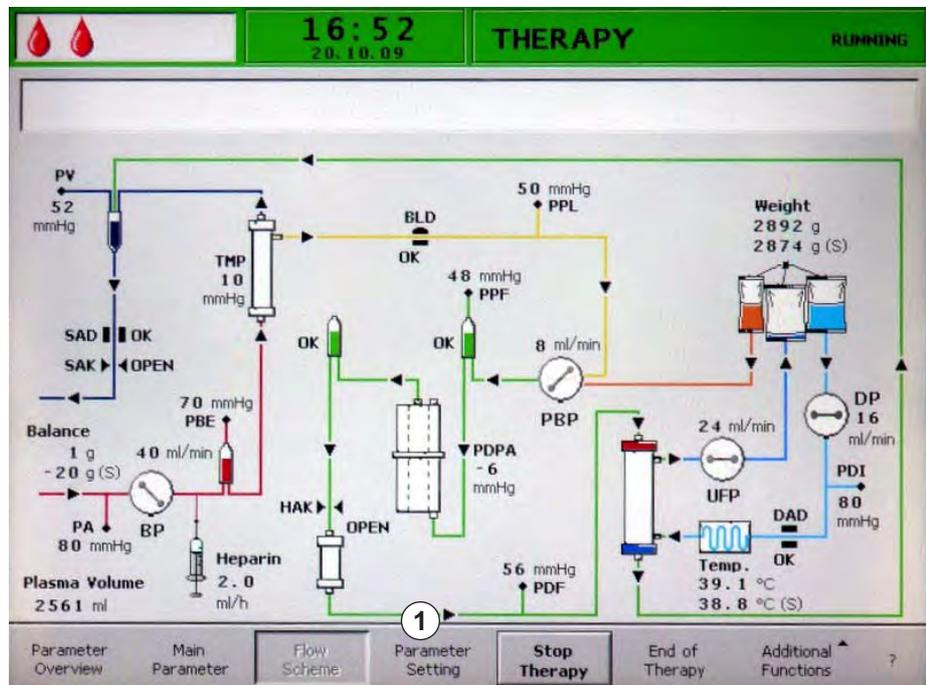

Fig. 3-24 *Parameter Setting* item in the *Flow Scheme* screen
↳ The *Flow Scheme* screen (Fig. 3-24) appears.
2. Use rotary knob to select *Parameter Setting* item (Fig. 3-24, ①) in menu bar and press *Enter* key.